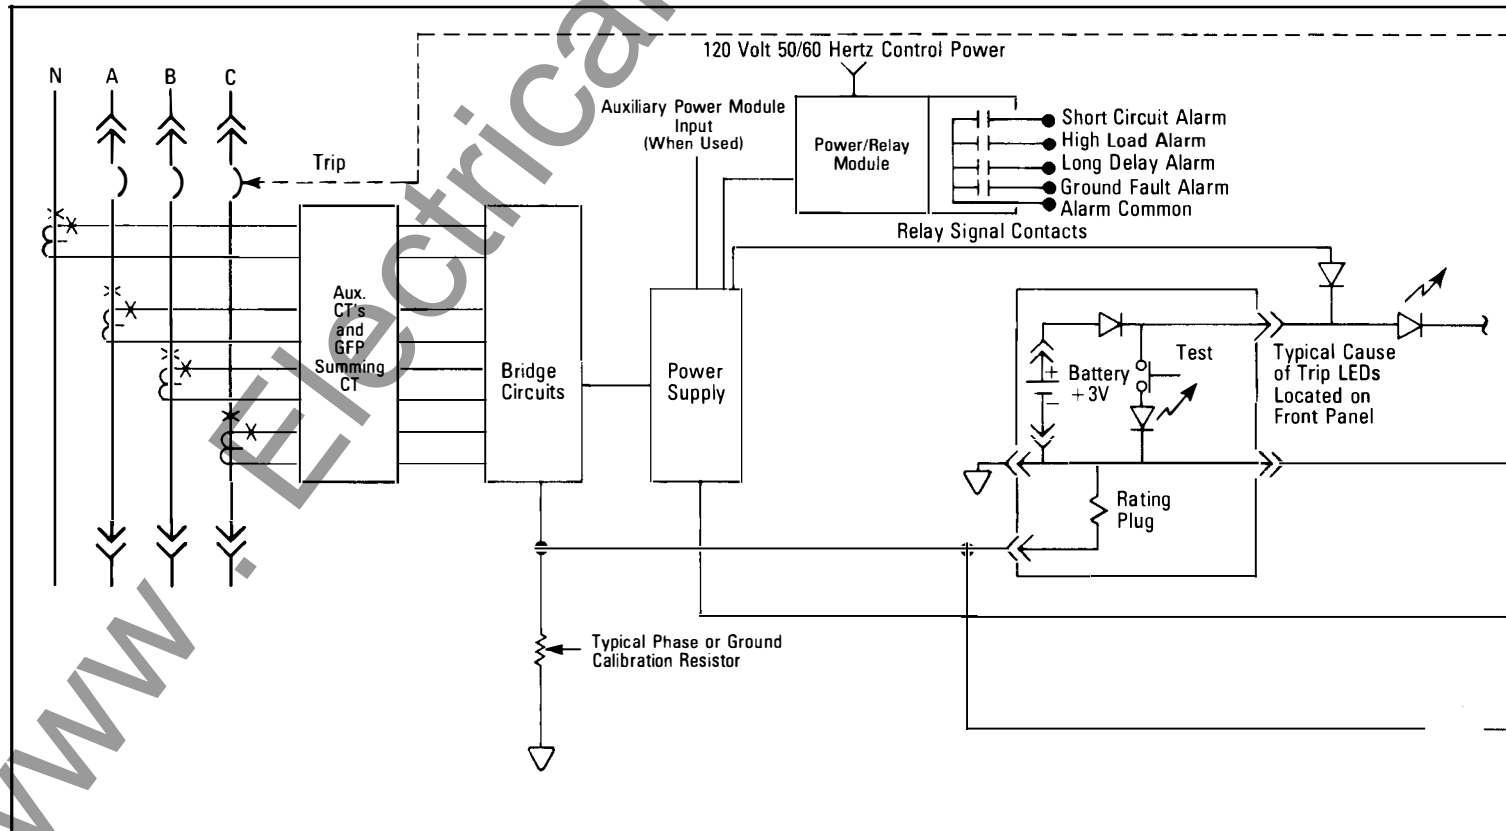

Fig. 3 Digitrip RMS 600 Block Diagram with Breaker Interface
The trip unit uses the INTEL MCS-51 family of microcomputers to perform its numeric and logic functions. The principle of operation can best be described by referring to the block diagram shown in Fig. 3.
As indicated in the block diagram in Fig. 3, zone interlock signals are provided. For Digitrip RMS 600 Trip Units equipped with either ground fault or short time protection functions or both, separate zone interlocking circuits are provided. When utilized, these input/output signals must be connected in the ultimate equipment assembly in line with details provided with the specific circuit breaker connection diagrams supplied with
External control power is required to operate the Power/Relay module. The power/relay module maintains the mode of trip LED indicators in their "On" position following an automatic trip operation as long as the control power is available. With a loss of control power following an automatic trip operation, a back-up battery as illustrated in Figs. 3 and 5 is provided to perform this function.
3. The Long Delay Relay in the Power/Relay Module (see Figs. 3 and 4) will operate to transmit a remote Long Delay alarm signal.
2. The "High-Load" relay in the Power/Relay Module (see Figs. 3 and 4) would have picked-up (after a 40 second delay,) to close a contact for a remote High-Load alarm.
3. The Short Circuit Relay in the Power/Relay Module (see Figs. 3 and 4) will operate to close a contact for a remote Short Circuit Alarm.